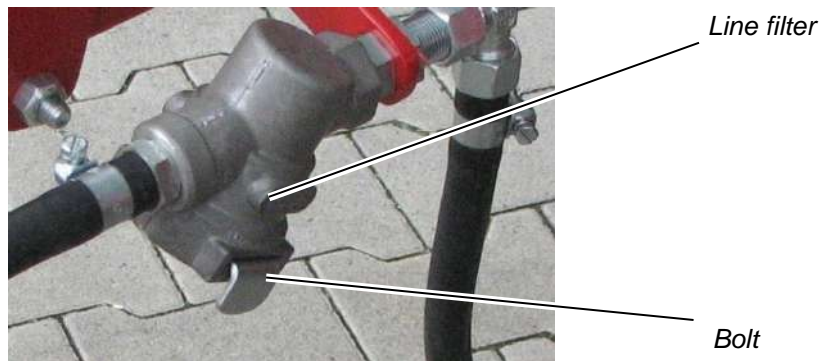

Figure 47: Line filter
- ⇒ Place one hand under the line filter (see Figure 47).
- ⇒ With your other hand, pull the bolt out from the line filter (see Figure 47).